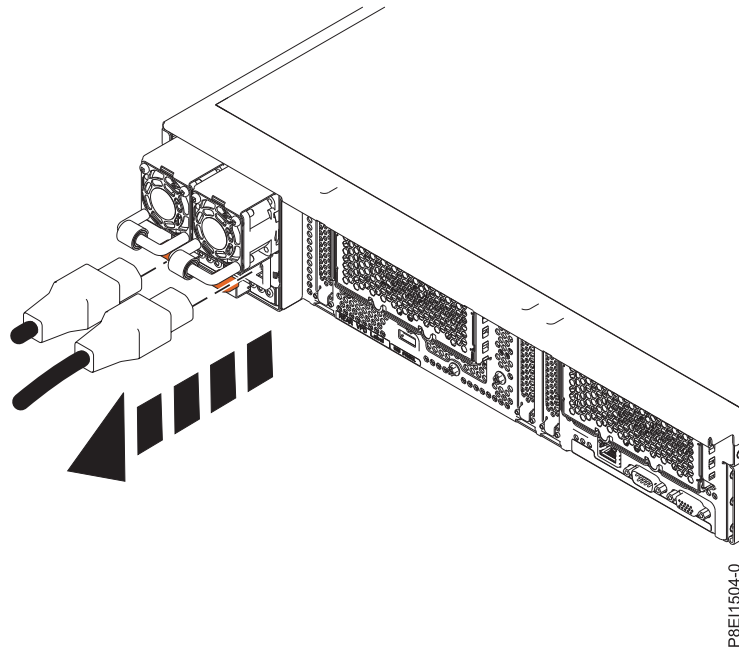

Figure 51. Disconnecting the power cord from the power supply
- a. Label the power cord, and then unstrap the hook-and-loop fastener to release the power cord from the power supply handle. Refer to Figure 51 on page 54.